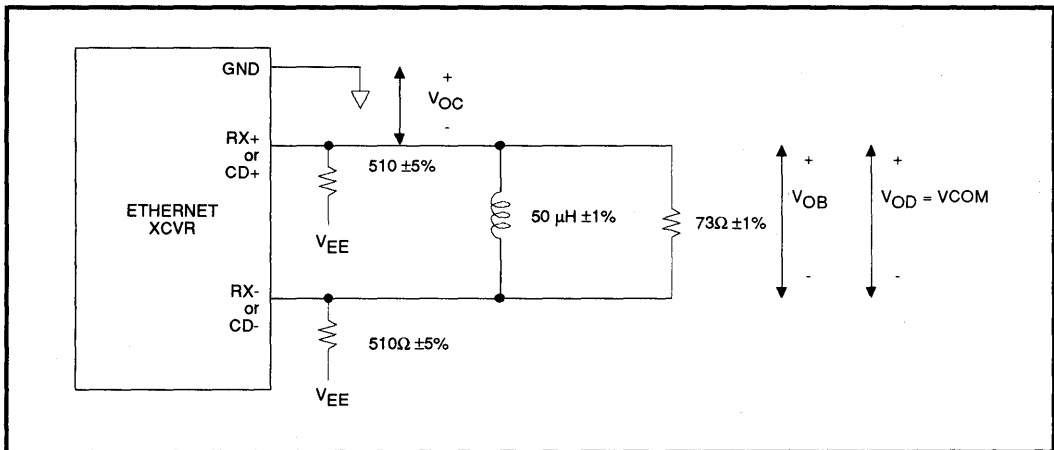

FIGURE 2: Test Load for  $CD\pm$  or  $RX\pm$
8. Test load as shown in Figure 2.